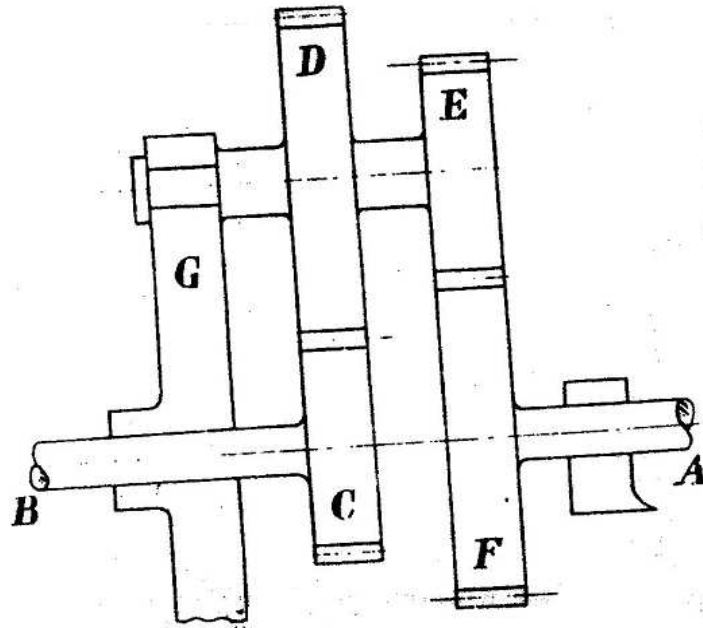

Figure 5:
3. In an epi-cyclic gear shown in figure 5, the wheel 'C' is keyed to the shaft B and the wheel E is keyed to the shaft A. C and E rotate together on a pin fixed to the arm G. C has 35 teeth. D has 65 teeth. E has 32 teeth and F has 68teeth. If A rotates at 60rpm and B rotates at 28rpm in the opposite direction to A find the speed and direction of arm G. [16]